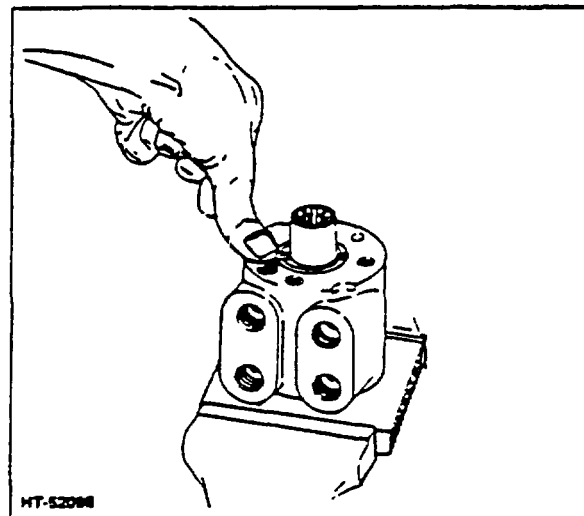

Figure 24. Rocking Check Plug During Installation
- Install a new O-ring on the check plug, and install the plug in the housing, (Fig. 24). Exert a steady pressure on the plug, rocking it slightly so the O-ring feeds in smoothly without cutting.